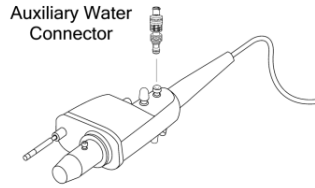

Figure 2
19. Attach the Auxiliary Water Jet Connector to the auxiliary water port by screwing it onto the port (See Figure 2). When attaching the Auxiliary Water Jet Connector to the port, take care to ensure that the Auxiliary Water Jet Connector is aligned to the port and avoid excessive tightening. Misalignment or excessive tightening of the Auxiliary Water Jet Connector could lead to the possibility of leakage. Once